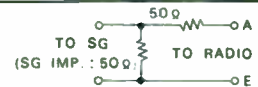

Fig. 3 Antenna Pad
- Antenna Pad: Refer to Fig. 1 and Fig. 3
- Connect the signal generator to the antenna receptacle through the antenna pad. (Fig. 3)